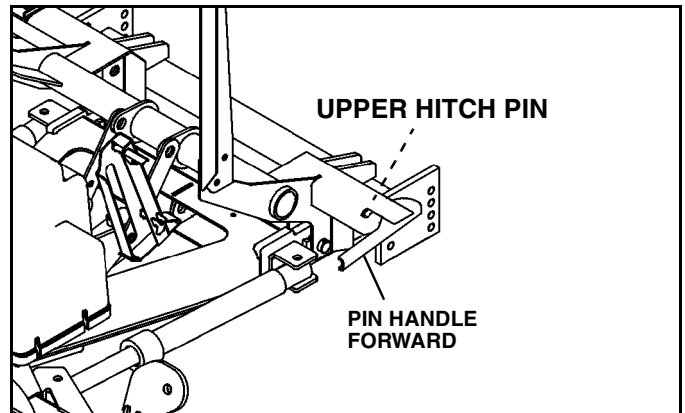

Figure 1-14
4. Put plow into float position by turning down pressure off. Rotate pin handles forward to lock upper hitch pins in place. (See Figure 1-14).